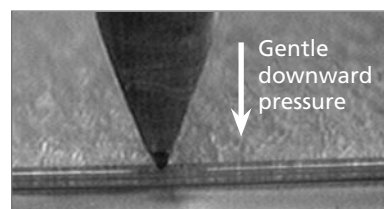

FIGURE 7 Cleaving tool in proper position
1. Place the tubing to be cut on a flat, clean surface and position the cleaving tool perpendicular to the tubing surface, as shown in Figures 7 & 8B. The long axis of the blade should be perpendicular to the tubing bore.